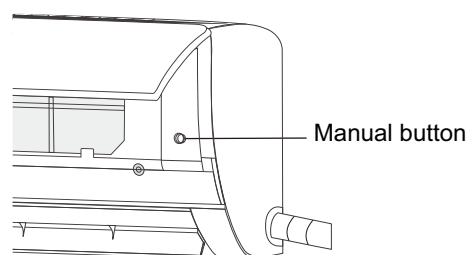

Fig. 9.1
1. Locate the MANUAL CONTROL button on the right-hand side panel of the unit. See Fig.9.1.